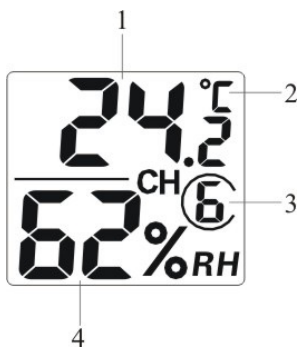

Figure 9
Verify the correct channel number (CH) and temperature units of measure (°F vs. °C) are on the display, as shown in Figure 9.